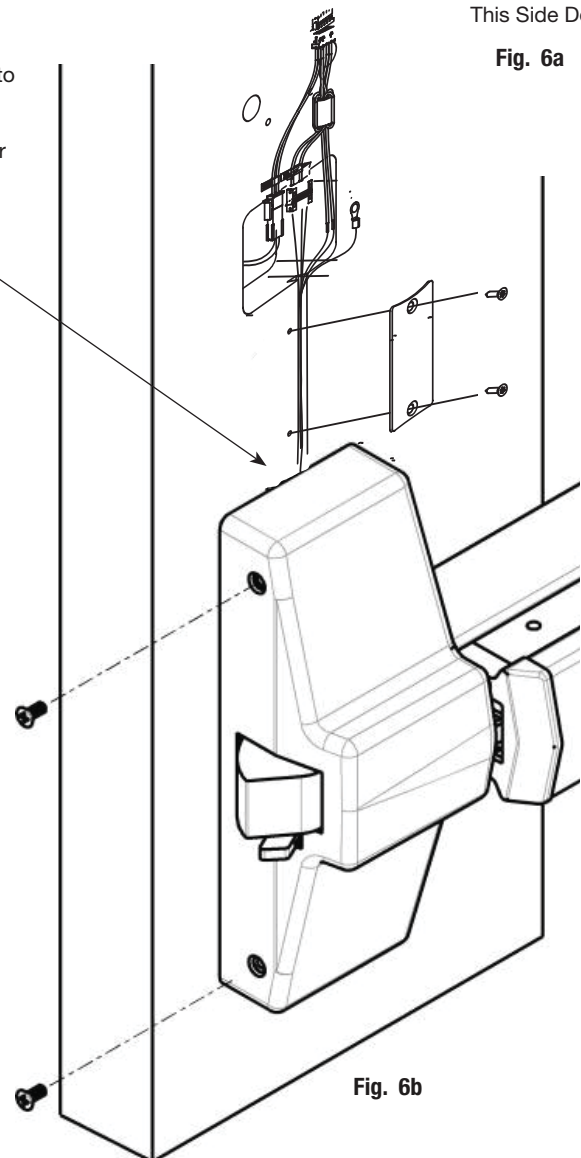

Fig. 6b
- c. Attach head cover using (2) #8-32 flat head screws (Fig. 6b).